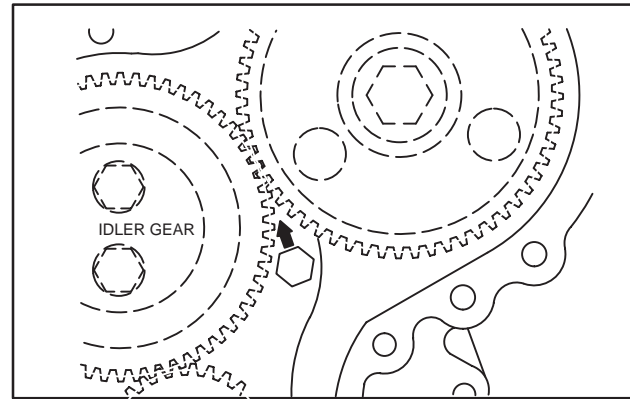

Fig. 12 – Installing Oil Nozzle
3. When reinstalling oil nozzle, oil hole must be positioned at 45° angle, pointing towards idler gear, Fig. 12.